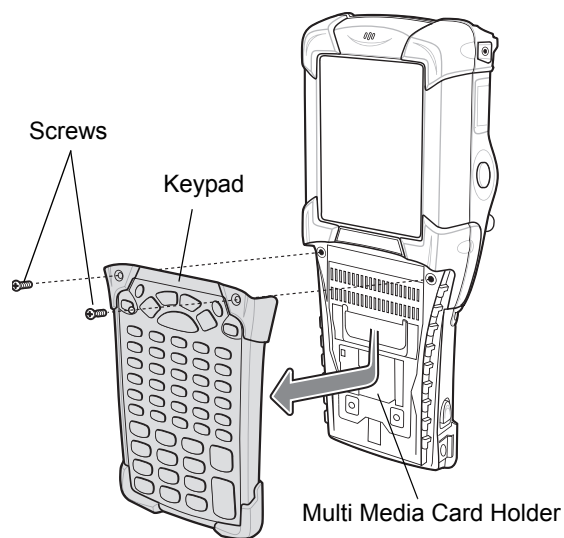

Figure 2-1 Removing the Keypad
The MMC provides secondary non-volatile storage. The MMC is located under the keypad (see Figure 2-1 on page 2-3).
2. Remove the two keypad screws and slide the keypad down and lift off (see Figure 2-1 on page 2-3).